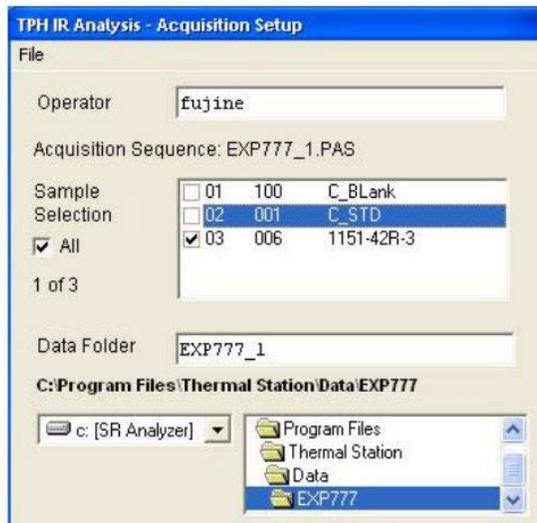

Figure 10. SRA > Acquisition.
1. Select *Main Menu > Acquisition* to open the *Acquisition Setup* screen (Figure 10). Fill in the fields: